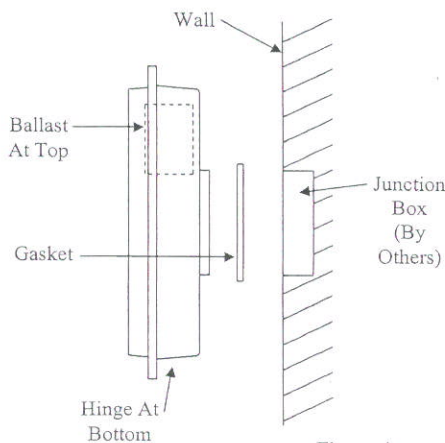

Figure 4
7. Mount luminaire using two 1/4" bolts (by others). See Fig. 4. Seal mounting bolts with silicone sealant.